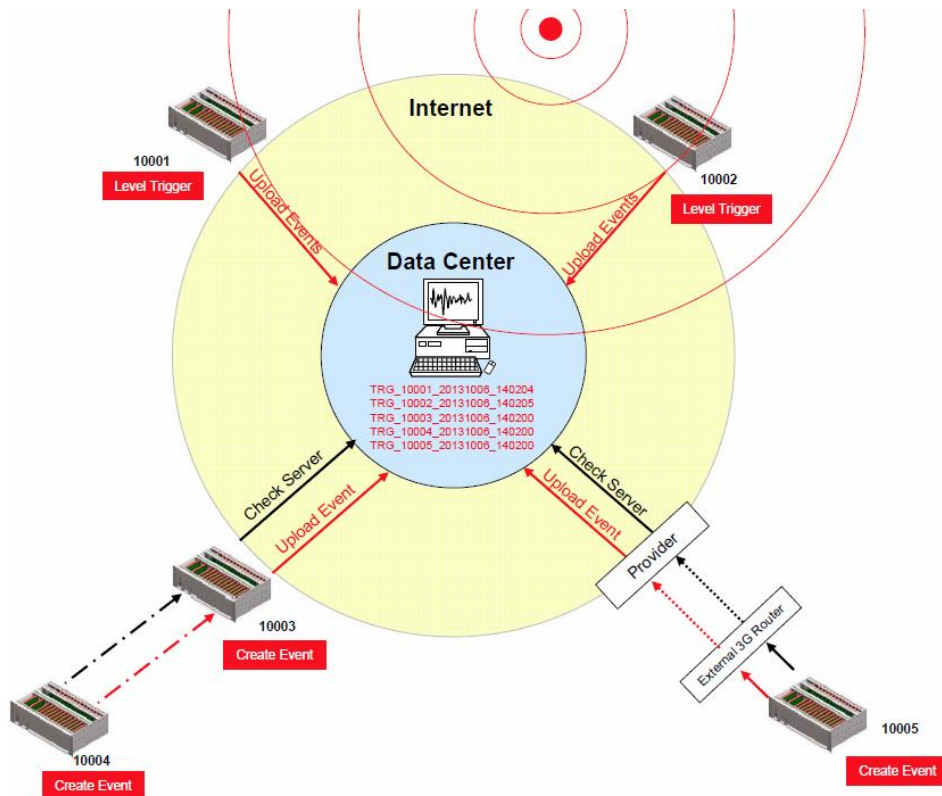

Figure 15. Behaviour on Events: Upload of extracted events
- All instruments will download the request during the next time checking the server (see Figure 15).
- The extracted event file will be uploaded to the data server (see Figure 15)